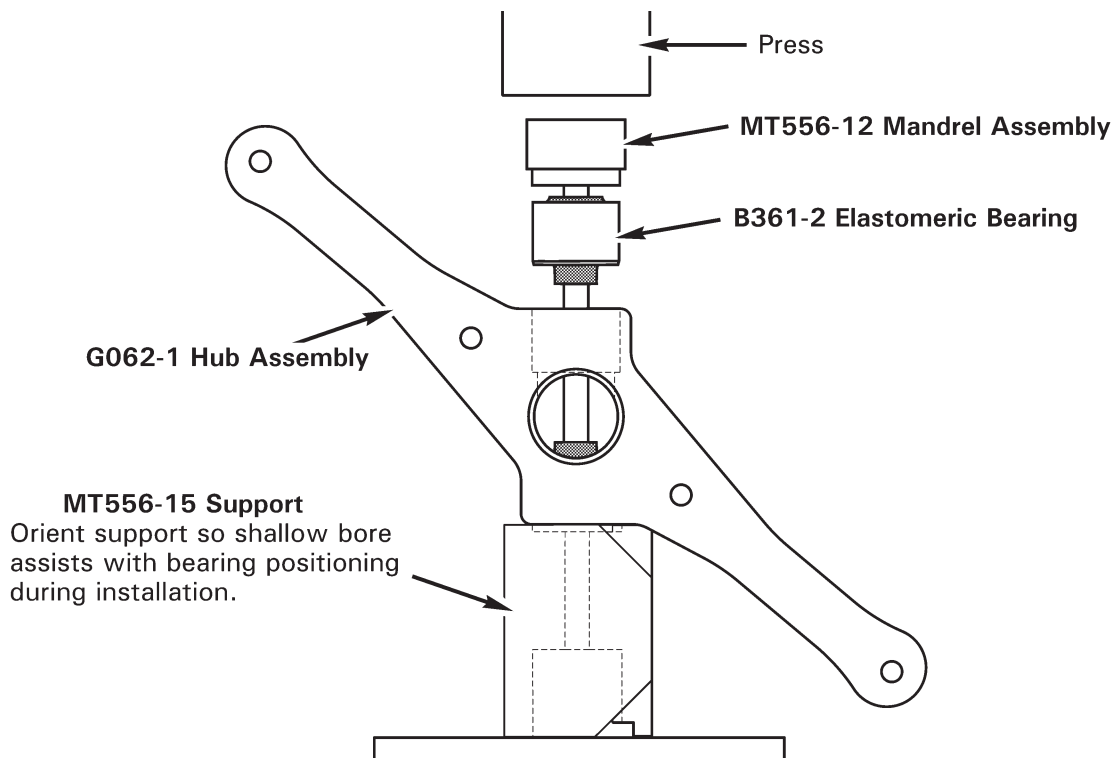

FIGURE 30-9 ELASTOMERIC BEARING INSTALLATION
2. Refer to Figure 30-9. Using Q-tip, apply light coat of approved primer (see § 23-70) to bottom of hub bearing bore. Apply a thin line of primer to center of bearing outside diameter. While primer is wet, press bearing into hub using MT556-11 bearing removal and installation tools. Wipe away excess primer.